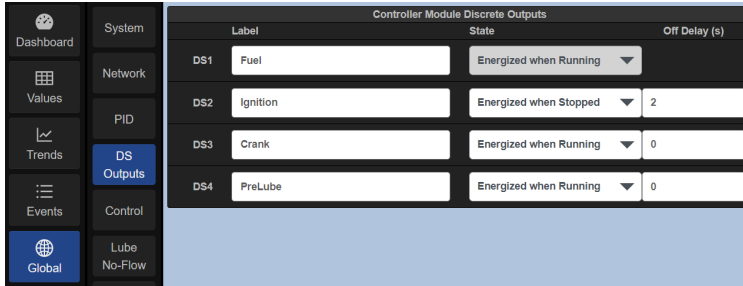

Figure 3.19 – Controller Module Discrete Outputs menu (Fuel and Ignition Outputs)
3.20 **View the configured channels** — Click on the **Values** tab. The Values page shows all of the configured channels in the system (Figure 3.19). The Values page shows a comprehensive amount of information about the configured channels in one location. This is a very handy page to view during start-up, troubleshooting and testing the system. The following information is shown for each channel: